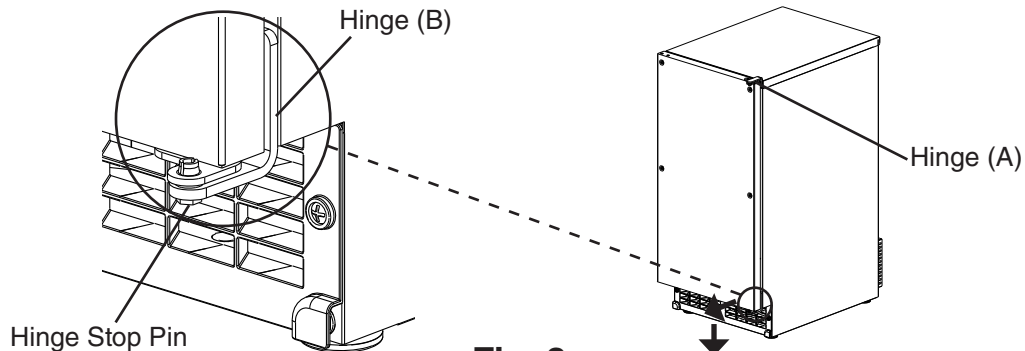

Fig. 3
- 5) While maintaining a hold on the door, remove the hinge stop pin from hinge (B). Pull out the bottom of the door slightly and gently remove the door from hinge (A). See Fig. 3. If you are leaving the door right-hinged, skip to step 7. If you would like to reverse the door hinges, proceed to step 6.